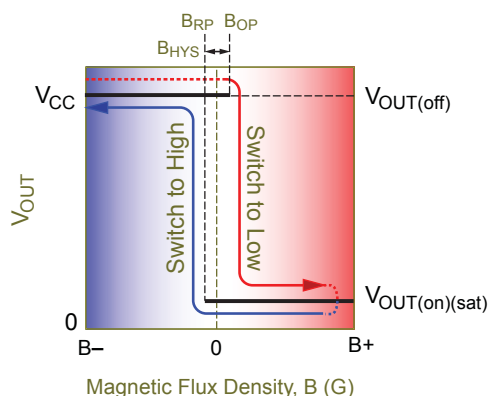

Figure 4A. Latch mode characteristic. Note that the switchpoint hysteresis zone, B_{HYS} , includes the neutral flux density level, $B = 0$ G.
1. For purposes of explanation of figure 4A, assume the device powers-on with the magnetic flux density at the far left, where the magnetic flux (B , on the horizontal axis) is more negative than B_{RP} or B_{OP} . Here the device is off, and the output voltage (V_{OUT} , on the vertical axis) is high.